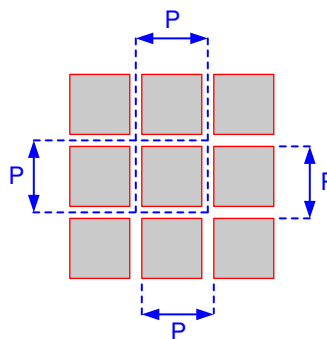

图 6-8. Micromirror Array Physical Characteristics
- (1) See FIG 6-8.
- (2) The structure and qualities of the border around the active array include a band of partially functional micromirrors called the “pond of micromirrors” (POM). These micromirrors are structurally and/or electrically prevented from tilting toward the bright or “on” state but still require an electrical bias to tilt toward “off.”
- (3) Out of the eight POM rows on the top and bottom, only the one POM row closest to the active array is electrically attached to that reset group. The other seven POM rows are attached to a dedicated POM internal reset driver circuit.